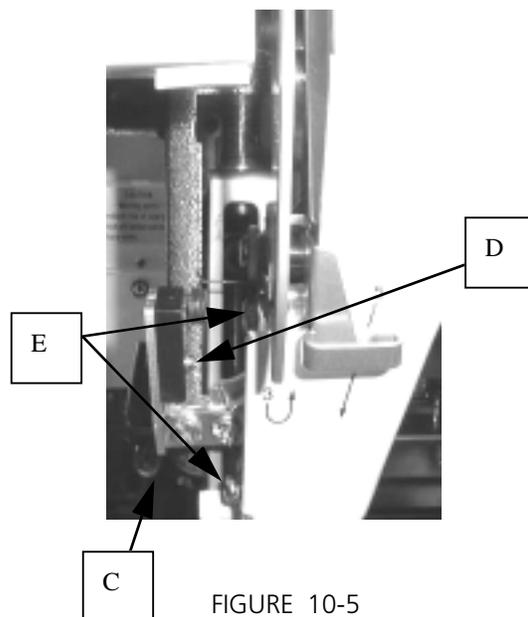

FIGURE 10-5
V. Remove a countersink head screw 2x8(D), and replace magnet sensor. Fig.10-5.
I. Remove 2 bind screws 4x8(E), and replace upper thread tension unit(F). Fig.10-5.